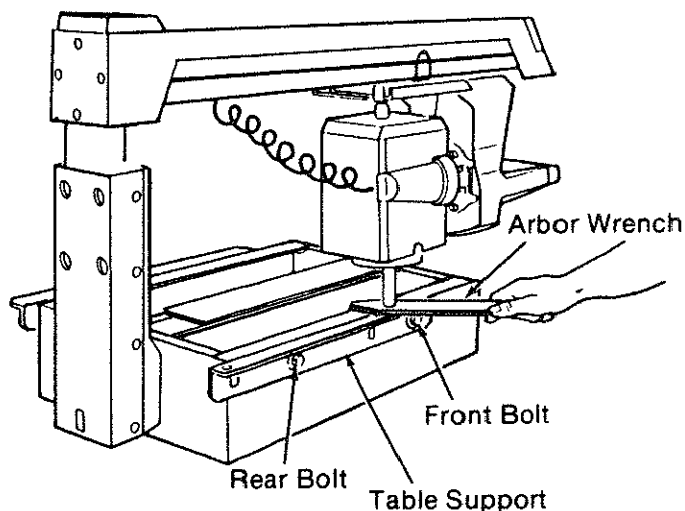

Fig. 40
14. Mark the point on the *table support* under the center of the *arbor shaft*. (Figure 40)
15. Place the handle end of the *arbor wrench* over this point. (Figure 40)